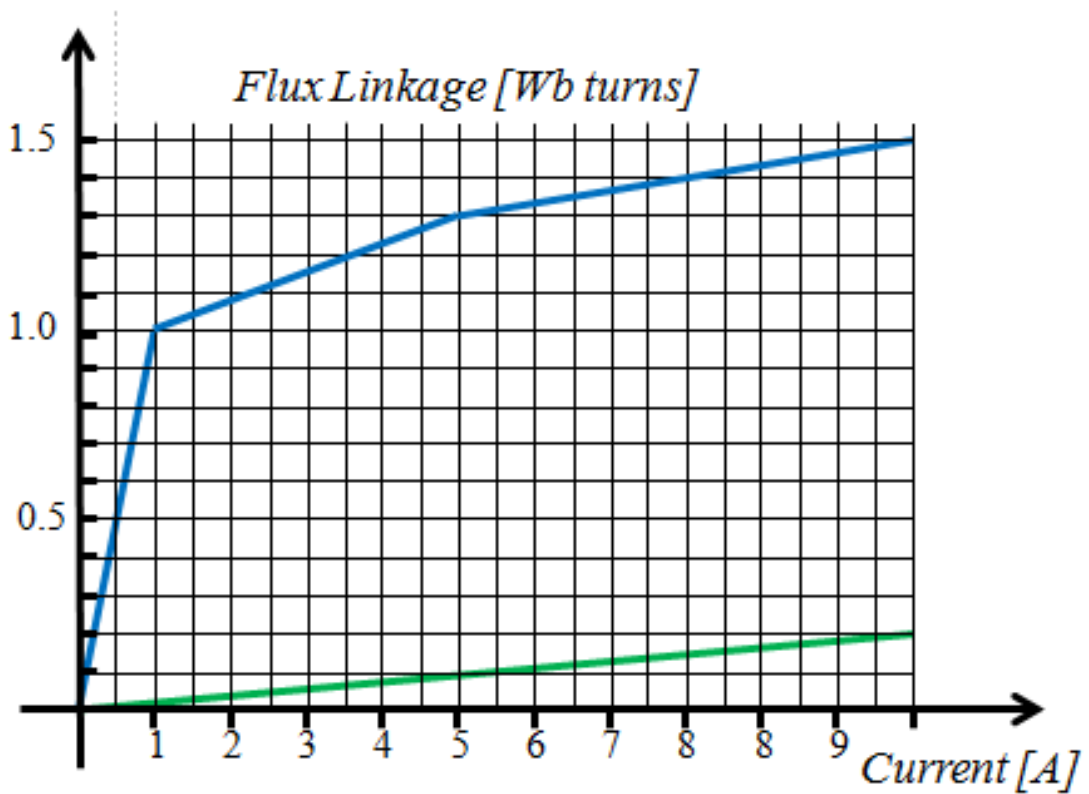

Figure 4
- c) With the current of 10 A, find the **average power** that can be produced by this motor at a speed of 1000 rpm. The flux linkage-current relations for a typical stator phase are shown in idealized form for the maximum- and minimum-reluctance rotor position in Fig. 4.